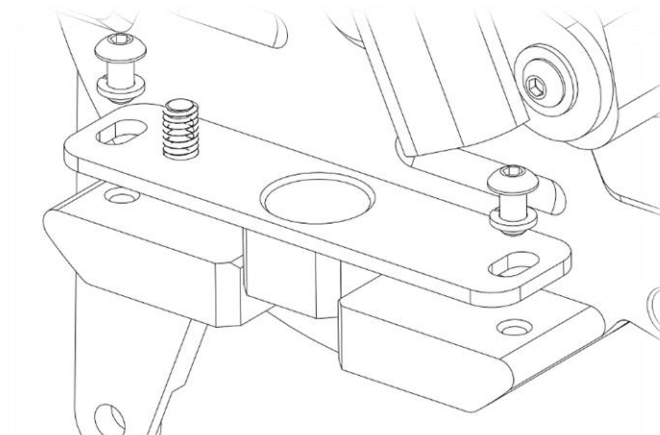

Figure 17
7. If not already performed, install the crank sensor mount onto the sensing unit. Two small M5x0.8mm bolts and serrated washers retain the crank sensor mount (Fig 17). Do not fully tighten the two screws, leave them loose enough that the crank sensor mount can slide back and forth.